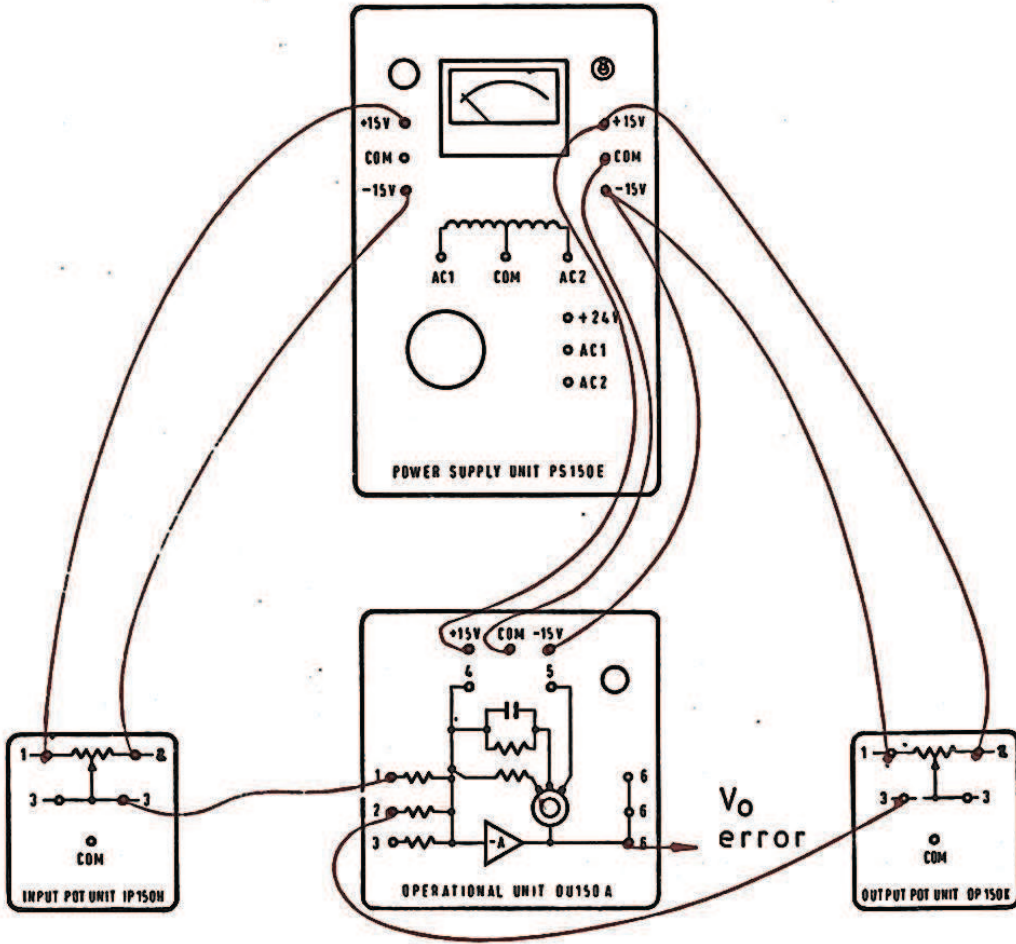

Figure-3.2: Error Channel Set Up
Set up the units as in figure-3.2 but do not yet connect the two amplifier input leads.
- The resistance between slider (3) and the input terminal (1) is same on both input and output potentiometers for all angular positions. If not, then loosen the dial and make an adjustment.
- As in figure-3.2, connect the rotary potentiometer with opposite polarities. This is very important otherwise the signals when summed will not cancel.